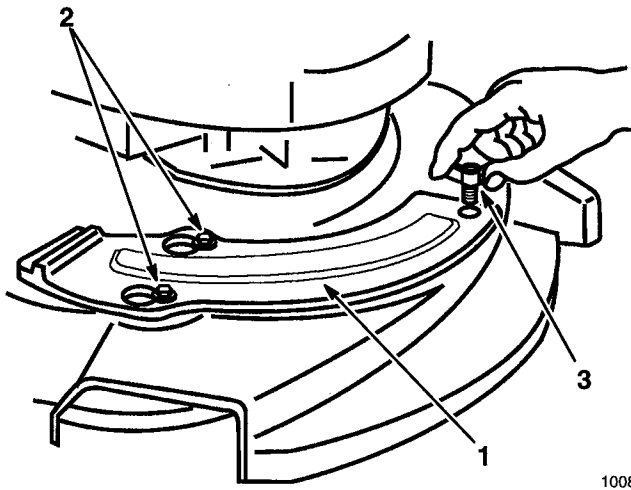

Figure 46
- Two shoulder bolts on the housing protrude through slotted holes in the mulch plate and do not have to be loosened or removed (Fig. 46). Mulch plate moves over the shoulder bolt heads.
- Secure with wing screw (Fig. 46).